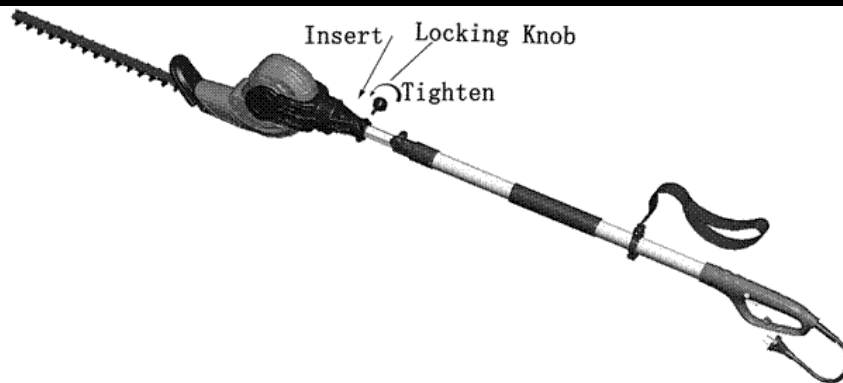

Figure 3
1. Insert the locking knob into the screw hole (see Figure 3), then tighten locking knob screw firmly. Make sure that connection is tight.